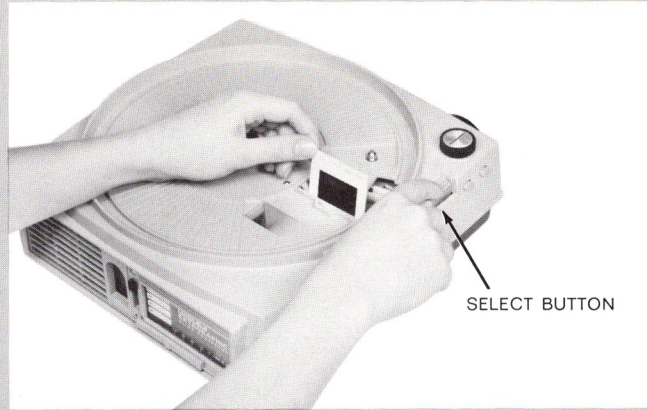

FIGURE 10
If you wish to use an extra slide, for a total of 81 (or 141 with the 140 tray), or a title slide that will be projected as soon as the projection lamp goes on, insert this slide in the projector gate (see Figure 10) before you set the tray in place. Or, if you want the screen to be dark after you have shown slide No. 80 (or No. 140 in the 140 tray), insert a 2 x 2-inch piece of thin cardboard in the gate before you position the tray on the projector. This additional slide or piece of cardboard will enter the blocked-off space in the tray at No. 0 when the first regular slide is projected; it will return to the gate when the slide tray is positioned at zero.
3. *Without a slide tray*: A single slide can be shown simply by inserting it, correctly oriented, into the projector gate as shown in Figure 10. To remove the slide, depress the select button.